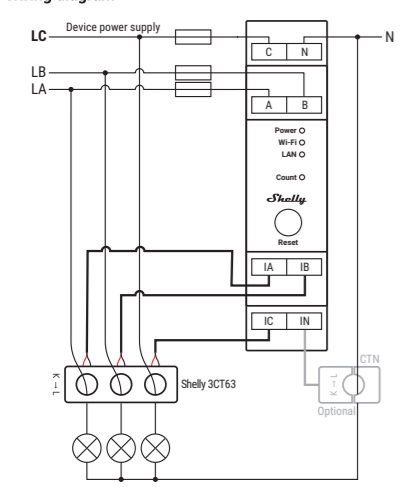

Fig. 1: Three-phase setup wiring diagram
- Connect the LA, LB, and LC phase wires to the corresponding Device A, B, and C phase input terminals as shown in Fig. 1.
- Make sure that each phase wire goes through the correct aperture by strictly following the wiring diagram (Fig. 1). For example, phase wire LA must pass through the coil connected to the Device IA input terminal.